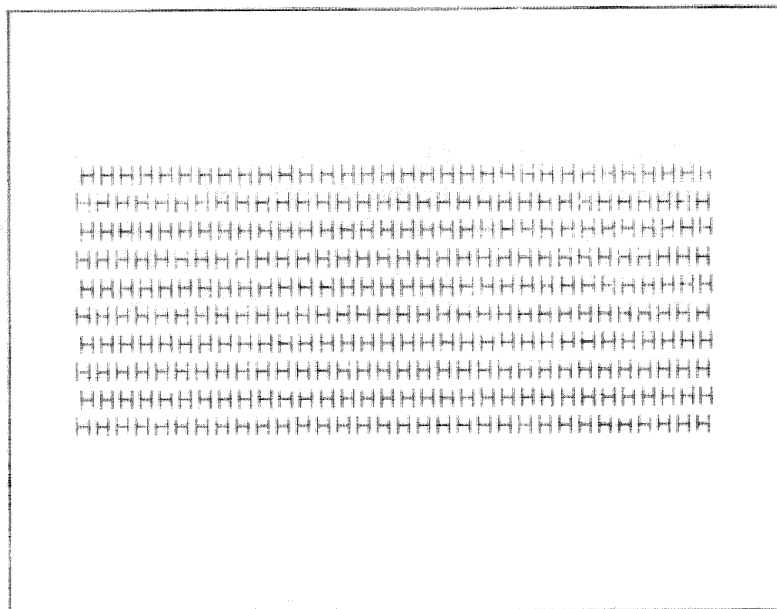

Figure 6-4. Printed Lines Not Correctly Aligned Vertically
**After doing this, check the printout for a vertical misalignment. (See figure 6-4.) If printed lines are not correctly aligned, remove the jumper wire (W37) from the printer PCA if installed, or install one if not.
Note: If any part of the print-head drive mechanism--such as the print-head motor, drive belt, or the set-screw in the coupling--is adjusted or replaced, check the printout for a vertical misalignment after setting the print-head home position. (See figure 6-4.) If printed lines are not now correctly aligned, remove the jumper wire (W37) from the printer PCA if installed, or install one if not. (W37 is located near pins 1 and 40 of the printer controller, U5.)
Note: If adjusting the print-head drive belt does not correct a vertical misalignment between printed lines (see figure 6-4), remove the jumper wire (W37) from the printer PCA if installed, or install one if not. (W37 is located near pins 1 and 40 of the printer controller, U5.)
Note: In step e, the belt will be adjusted until it is too tight; in step f, the belt will be adjusted until it is too loose. In both conditions, there will be an offset between the characters on one line and the characters on the next. (See figure 6-4.) However, if the belt is too loose, it will be visibly slack near the right pulley while the print head is moving from right to left. When the belt is adjusted to the proper tension, the offset from line to line should be no greater than 2/3 the width of a printed dot.